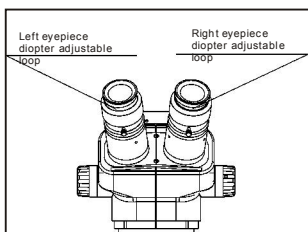

Fig.3
- (1) Turn the zoom control knob to the maximum magnification.
- (2) Turn the diopter adjusting rings to the zero.
- (3) Observe the specimen through the right eyepiece and make the image clear by turning the focusing knob.
- (4) Rotate the zoom control knob to the minimum magnification.
- (5) Observe the specimen through the right eyepiece and make the image clear by turning the right diopter adjusting ring.(Fig.3)
- (6) Re-do the step(3)and (5) till the right adjusting ring is more precise.
- (7) Do the step (4) and make the image clear which is observed through the left eyepiece by turning the left diopter adjusting ring. (Fig.3)